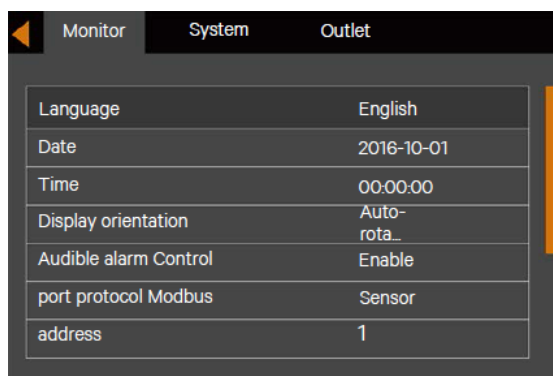

Figure 5-18 Monitor Interface
1. Press the  key to move the cursor to the 'Monitor', see Figure 5-18.